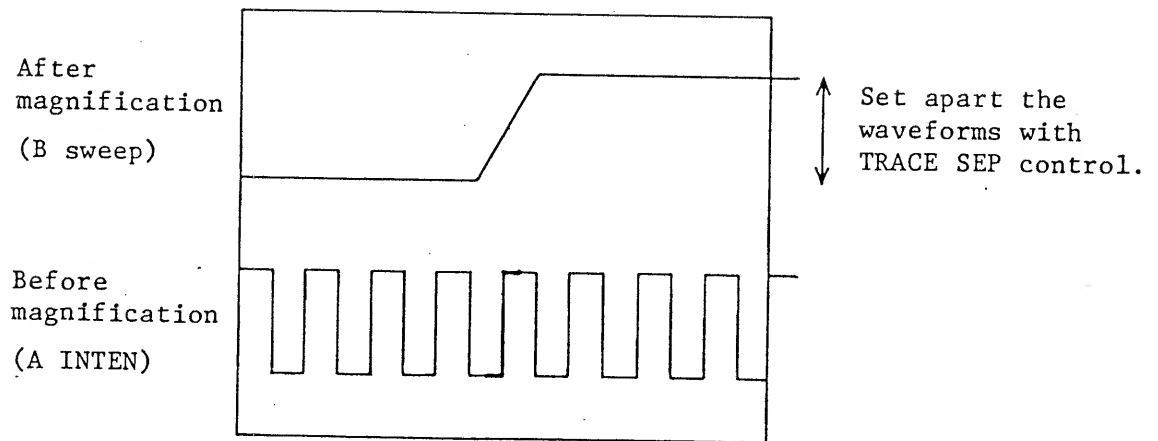

Figure 4-12
Turn the HOR DISPLAY switch to the ALT position. A part of the displayed waveform will be accentuated as shown in Figure 4-12, indicating the state ready for delayed sweep. The intensified portion denotes the section corresponding to the B sweep time (DELAYED SWEEP) (32).